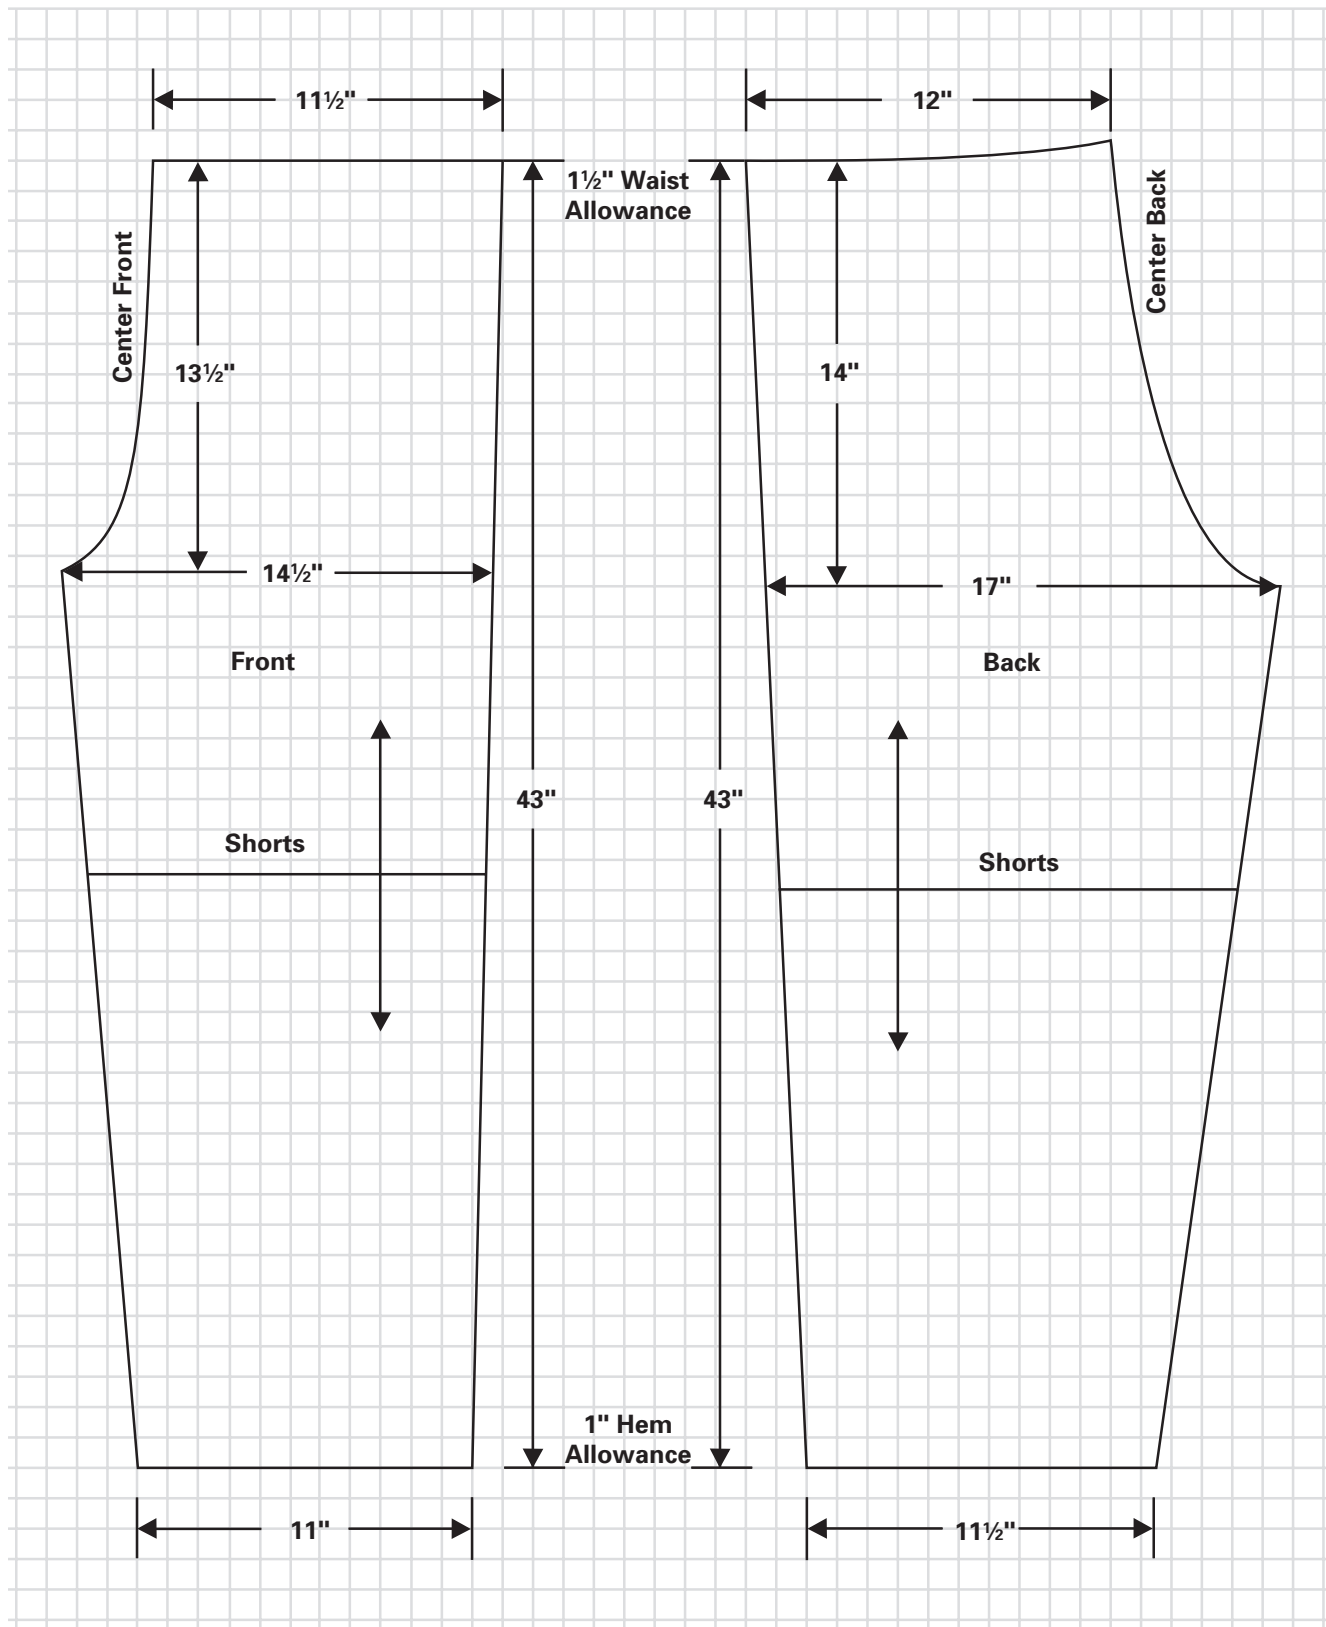

Fig. 1-8
1. To draw the pattern, measure your waist and hips. For pants, measure the length from your waist to your ankles. For shorts, measure the length from your waist to the length of your choice. Add 1 inch (2.5 cm) to the length for a hem. Use these measurements and Fig. 1-8 on page 94 to draw a pattern on pattern tracing cloth, adjusting the width and length as needed.